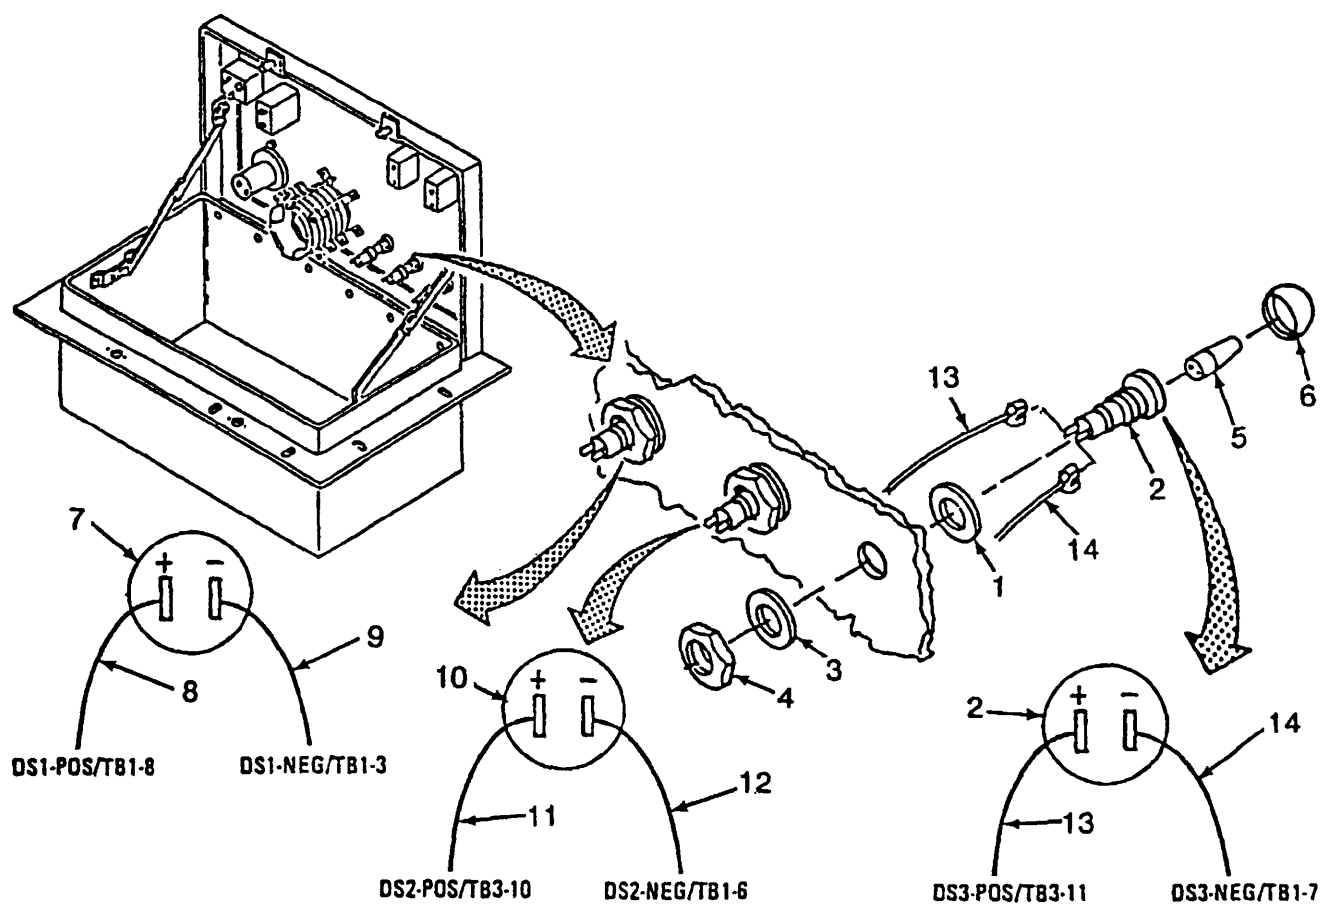

Figure 4-32. Control Box Assembly Power, High Temp and Flameout Lights
c. Assembly - continued (Refer to Figure 4-32)
- (12) Install gasket (1), light (2), lockwasher (3) and nut (4).
- (13) Install bulb (5) and cap (6).
- (14) Connect wires for each light as follows:
- (a) Power Light (7) - connect wire DS1-POS (8) and wire DS1-NEG (9).
- (b) High Temp Light (10) - connect wire DS2-POS (11) and wire DS2-NEG (12).
- (c) Flameout Light (2) - connect wire DS3-POS (13) and wire DS3-NEG (14).